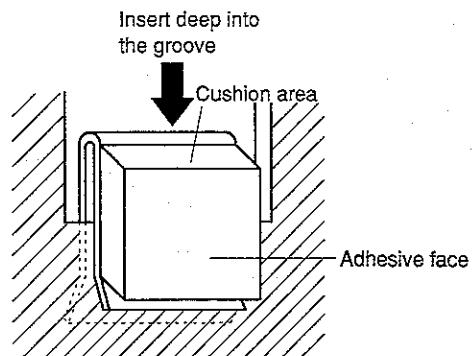

Fig. 5
④ Peel off the protective seal from the cushion area. The adhesive area is then exposed. Don't lay a table cloth on the table because the adhesive area may accidentally contact it. Also clean the surface of the table.
- ⑤ Stand the drawer up, and gently press it down to fix the adhesive face of each fixture firmly on the table. (See Fig. 5)